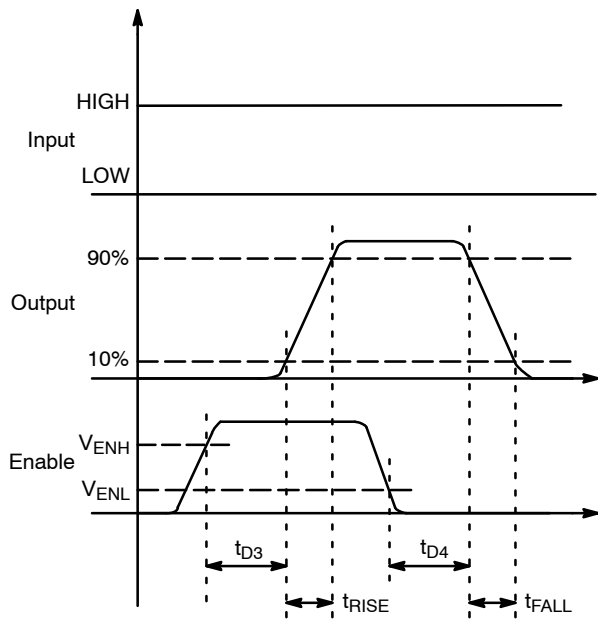
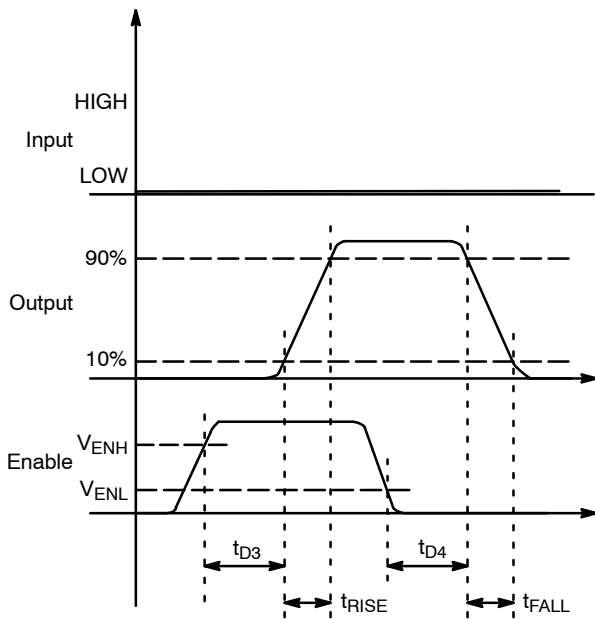

Figure 11. Non-Inverting (IN HIGH)
Figure 12. Inverting (IN LOW)
11. See *Timing Diagrams of Figure 11 and Figure 12*.